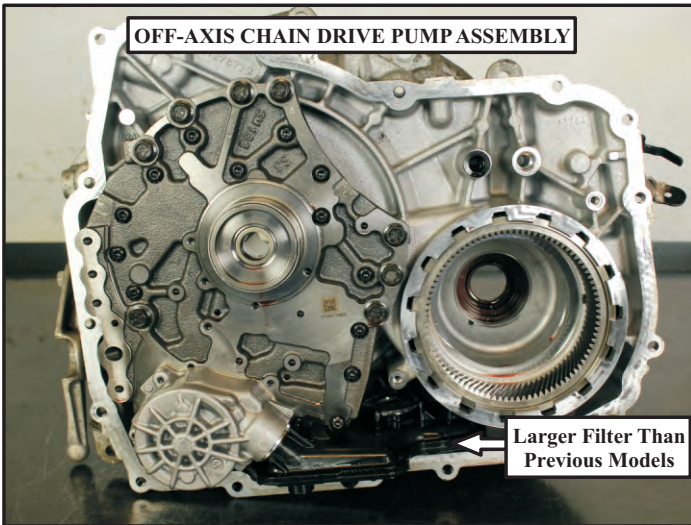

Figure 2
- (2) The torque converter housing was changed to accommodate the off axis chain driven pump assembly that is now mounted to it and to provide oil passages for the new pump design (figure 2).
- (3) The sump filter changed dimensionally to 5½ inches wide and 7¾ inches long (figure 2).